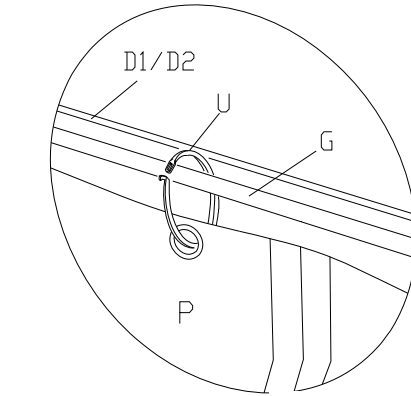

Fig. 11
Hang the Curtain(P) onto the outside Sliding Rail (G) with the Plastic Rings(U) (See Fig.11).